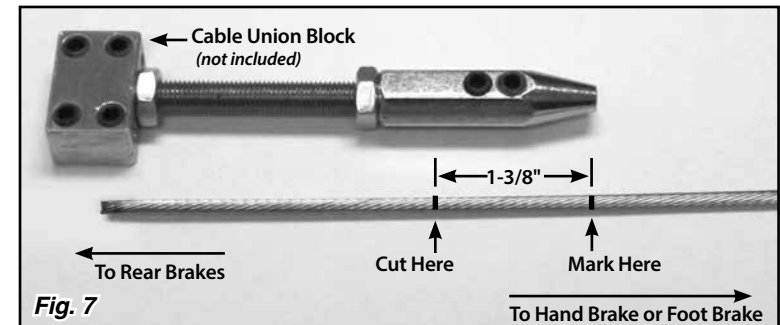

Fig. 7
**Step 11:** Measure 1-3/8" further towards the rear end of the inner wire and make a second mark. Cut the inner wire at the second mark, so that approximately 1-3/8" of the inner wire can be inserted into the single wire union assembly. Fig. 7